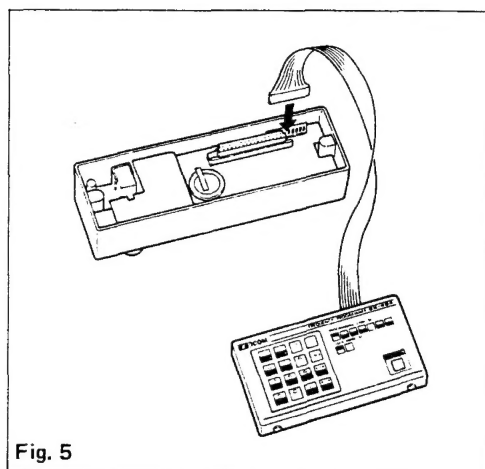

Fig. 5
- 3) Plug the connector from the EX-494 EXTERNAL KEYBOARD into J4. (Fig. 5)